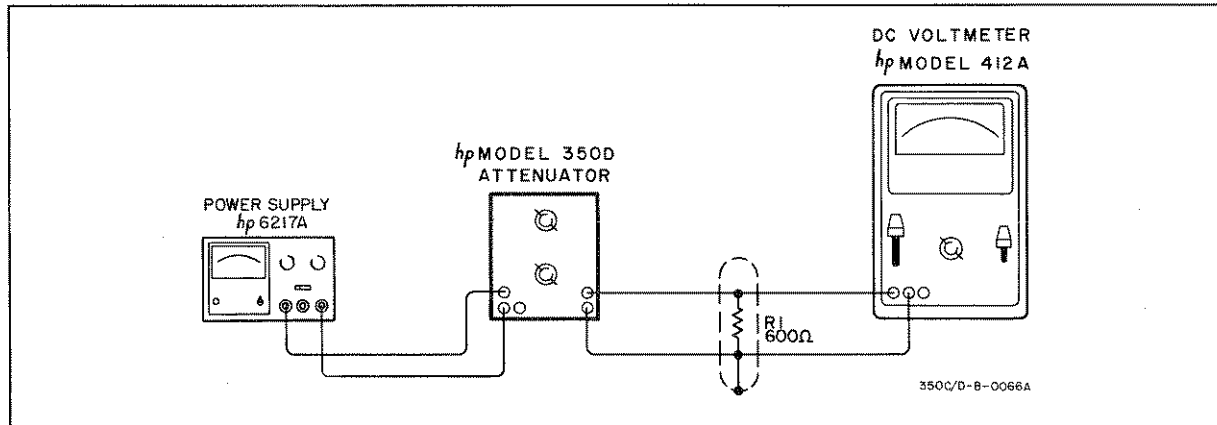

Figure 5-5. DC Performance Test Setup
5-11. The dc performance test setup is illustrated in Figure 5-5. A DC Power Supply (-hp- Model 6217A) and a DC Voltmeter (-hp- Model 412A) are required for this test. In addition, a Corning Glass Works Co. 600 ohm, 10 watt, LPI-10  $\pm 2\%$  resistor is required. This resistor must be enclosed in a shield as shown in Figure 5-5.
- a. Make test setup illustrated in Figure 5-5.